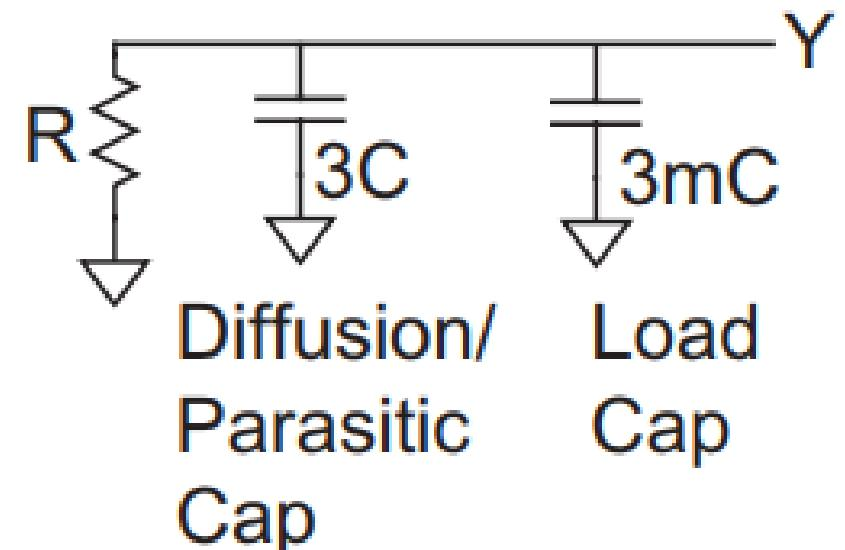

FIGURE 4.12 Equivalent circuit for inverter
- Figure 4.12 shows an equivalent circuit for the falling transition.